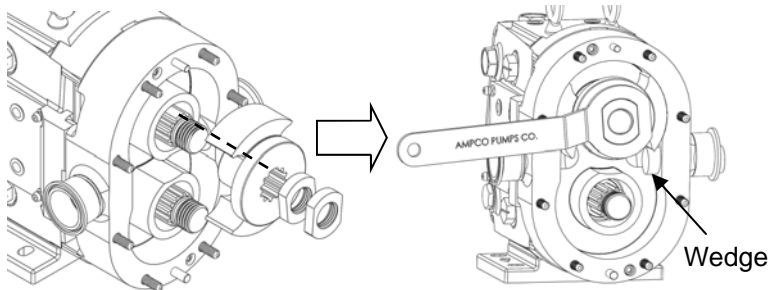

Figure 62: Installing Rotors and Tightening Jam Nuts
2) Install rotor onto either shaft by aligning the large spline tooth on the shaft with the large spline groove on the rotor. Secure the rotor in the body with the jam nuts. Place one nut on at a time, tightening them down using the supplied wrench and a non-metallic wedge to hold the rotor in place (Figure 62). See Table 7 for required torque values. Repeat with the second rotor.